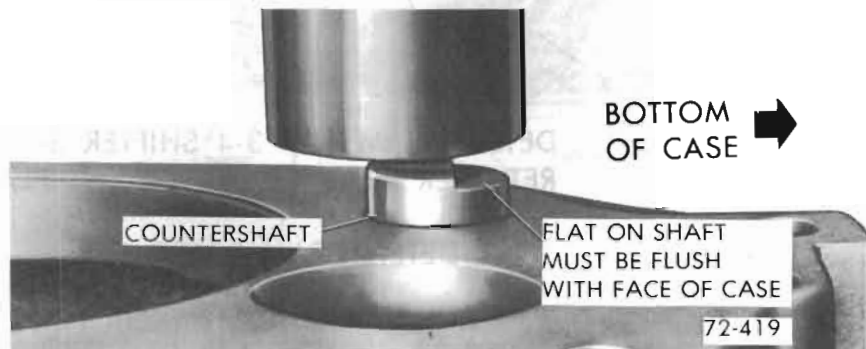

Figure 72-56 - Installing Countershaft
4. Align countergear with shaft in rear and hole in front of case. Press countershaft into case (pushing alignment tool out front of case) until flat on shaft is flush with rear of case. Make certain thrust washers remain in position. See Figure 72-56.